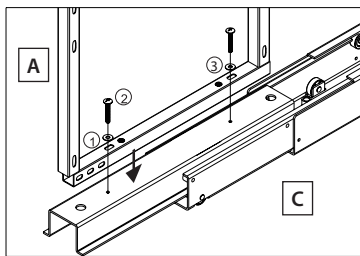

fig. 5
5) The bottom of the frame (A) sits on top of the bottom slide (C) as shown in figure 5. Use M6 screw (#2) and washer (#3) to attach.